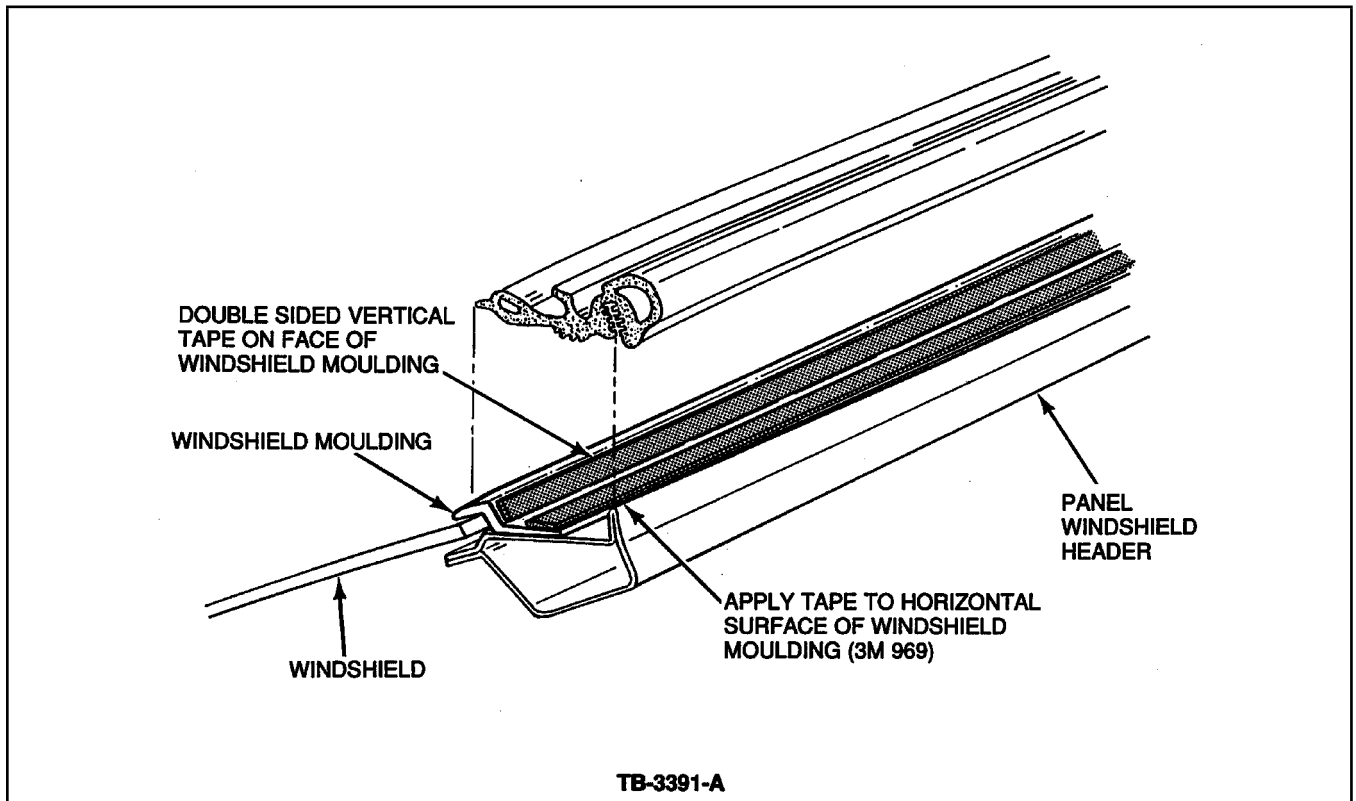

Figure 3 - Article 94-7-3
5. Apply a strip of 3M Brand '969' adhesive tape (FOJY-76514-A46A, or equivalent) along the length of the horizontal face of the windshield upper moulding. Do not peel the backing paper from the tape, Figure 3.